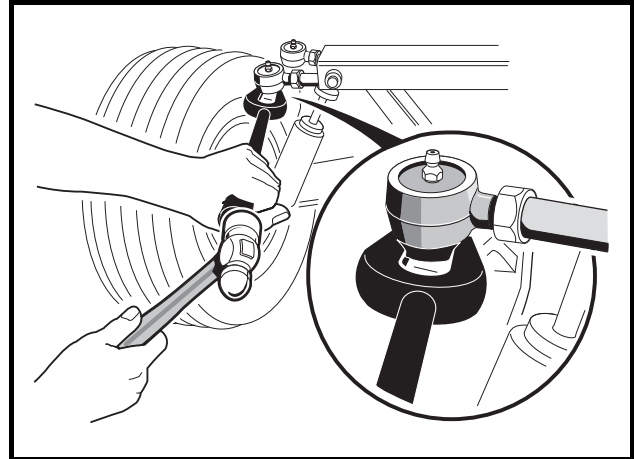
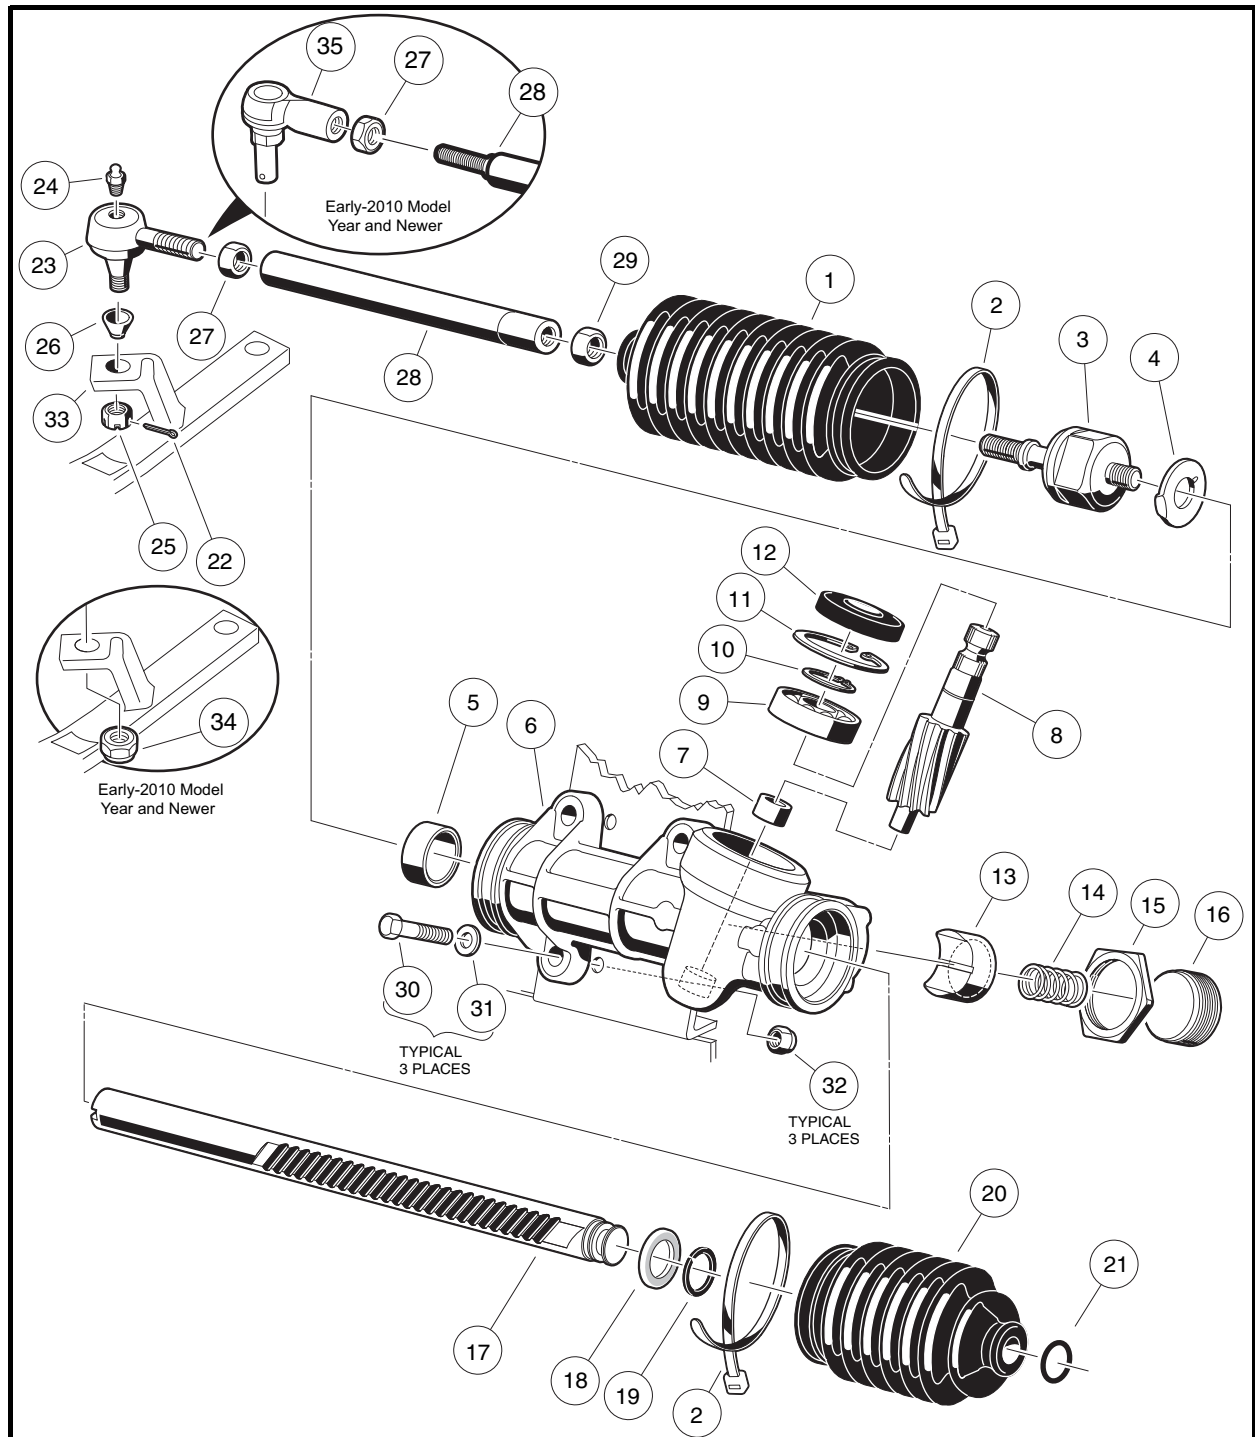
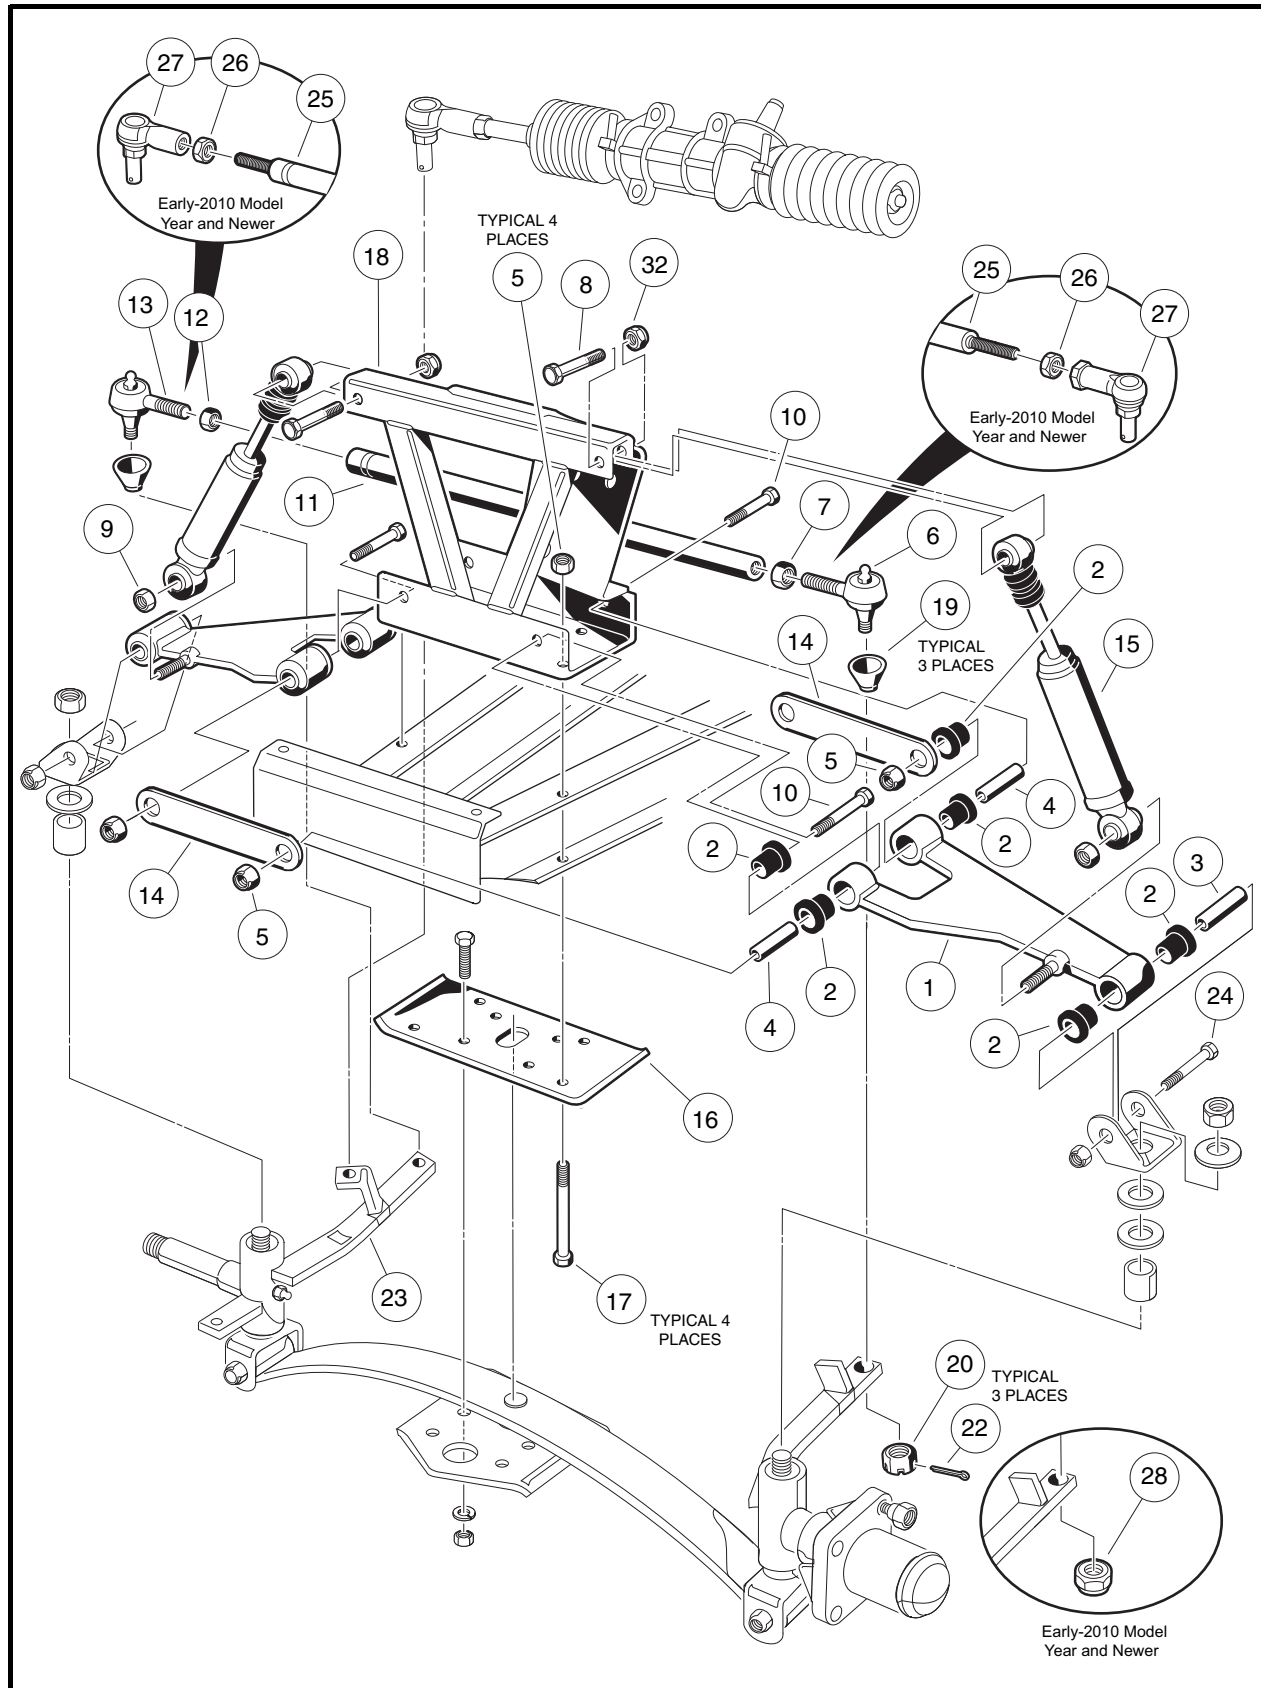
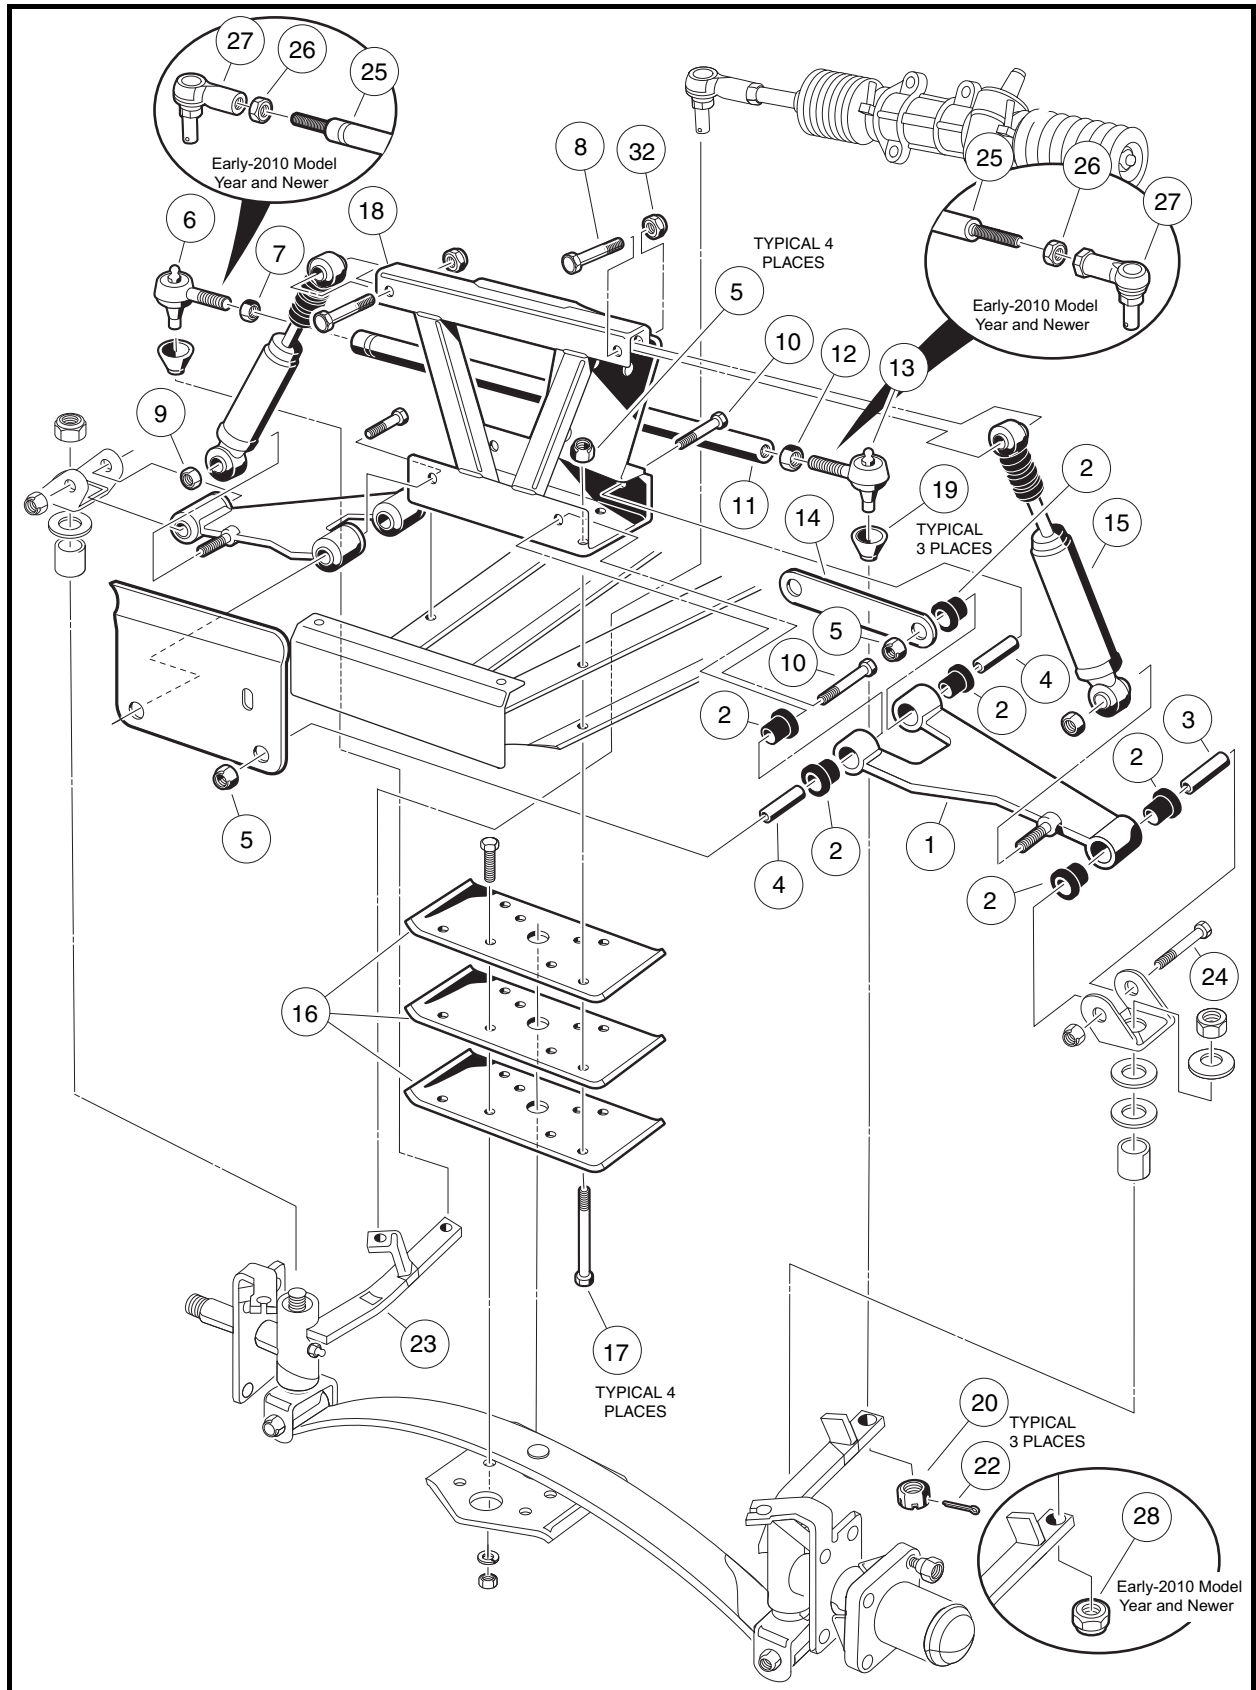

Figure 7-8 Ball Joint Tool – 2008 to Early 2010 Model Year
Figure 7-9 Steering Gear
Figure 7-21 Two-Wheel Brake Vehicle – Upper Portion
Figure 7-23 Four-Wheel Brake Vehicle – Upper Portion
2. Loosen the nuts (27 and 29) and turn the drag link (28) (**Figure 7-9, Page 7-9**) to adjust the drag link rod. Adjust the link rod with the steering wheel turned all the way to the right, so the passenger side spindle stop lightly touches the passenger side A-plate. The internal stop on the rack must reach its limit of travel at the same time the spindle stops against the passenger side A-plate (with vehicle wheels turned to the right). **See following CAUTION.**
3. When all adjustments have been completed, tighten the nuts (27 and 29) on the drag link assembly with an open end wrench. Tighten nuts to 21 ft-lb (28.4 N·m) (**Figure 7-9, Page 7-9**). **See following CAUTION.**
- **When tightening the nuts (27 and 29), make sure the drag link (28) does not turn (Figure 7-9, Page 7-9).**
- ball joints (23 or 35) (**Figure 7-9, Page 7-9**) and (6, 13 or 27) (**Figure 7-21, Page 7-20 or Figure 7-23, Page 7-22**)
- rack assembly (17) (**Figure 7-9, Page 7-9**)
2. For 2008 to early-2010 model years: Remove the cotter pin (22) and ball joint retaining nut (25) (Figure 7-9, Page 7-9).
- 2.1. Using a ball joint removal tool, remove the ball joint (23) (Figure 7-9, Page 7-9) from the spindle (33). See Figure 7-8, Page 7-8.
3. **For early-2010 model year and newer:** Remove ball joint retaining nut (34) and remove ball joint (35) from spindle (33) (Figure 7-9, Page 7-9).
4. Remove the bolts (30), washers (31), and lock nuts (32) from the steering rack assembly mounting bracket (Figure 7-9, Page 7-9).
- The ball joint (23) (Figure 7-9, Page 7-9) has left-hand threads.
1. Remove ball joint from the spindle and inspect it for excessive wear (Figure 7-8, Page 7-8).
2. Remove the drag link (28) (Figure 7-9, Page 7-9).
3. Remove both bellows clamps (2) (plastic wire ties).
4. Remove the hex nut (29) and slide off the dust seal bellows (1).
5. Remove the retaining ring (21), then slide off dust seal bellows (20).
6. Remove the rack screw lock nut (15), rack guide screw (16), rack guide pressure spring (14), and the rack guide (13) (Figure 7-9, Page 7-9).
7. Remove the universal joint assembly from the pinion (8) by fully removing the bolt and then sliding off the universal joint.
8. If necessary, remove the dust seal (12). **See following NOTE.**
**NOTE:** If the dust seal (12) is removed, replace with a new one.
9. Use snap ring pliers to remove the internal snap ring (11) (Figure 7-9, Page 7-9).
11. If the ball bearing (9) has been damaged, remove the external snap ring (10) (Figure 7-9, Page 7-9) and press the bearing off (Figure 7-11, Page 7-10).
12. Remove retaining ring (19) and stop washer (18), then remove rack (17) from housing (6) (Figure 7-9, Page 7-9).
14. Inspect the bushing (5) for excessive wear. If wear is excessive, replace the steering box assembly (CC P/N 101878302) (**Figure 7-9, Page 7-9**).
3. Apply a light coating of EP grease to the teeth of the rack (17), then slide the rack through the bushing (5) and housing (6). Install the stop washer (18) and retaining ring (19) to the end of the rack (**Figure 7-9, Page 7-9**).
4. If the bearing (9) was removed, press on a new bearing, exerting all pressure on the inner race (grease the bearing before installing it). Then install the external snap ring (10) (**Figure 7-9, Page 7-9**). **See preceding CAUTION.**
5. If the needle bearing (7) is damaged, the steering box assembly (CC P/N 101878302) must be replaced (**Figure 7-9, Page 7-9**).
6. Install pinion (8) and bearing (9) assembly into the housing (6) (**Figure 7-9, Page 7-9**). Make sure the rack gear teeth will mesh with the gear teeth on the pinion. The rack may need to be rotated slightly while lightly tapping on the pinion-bearing assembly with a rubber mallet. **See following CAUTION.**
7. Install the internal snap ring (11) (Figure 7-9, Page 7-9).
9. Apply a small amount of grease to the rack guide (13) where it comes into contact with the rack (17) (Figure 7-9, Page 7-9).
10. Place a few drops of Loctite® 222 to the threads of the screw (16) (Figure 7-9, Page 7-9).